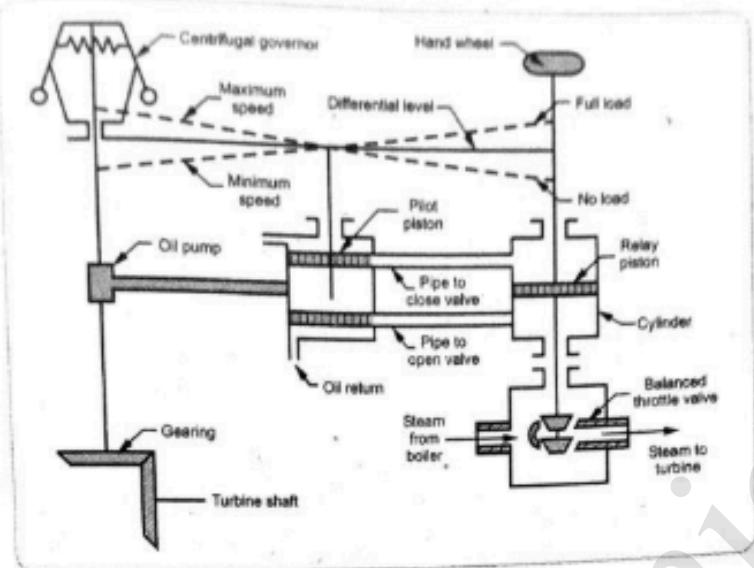

Fig. 4.49 : Throttle governing of steam turbine
- Fig. 4.49, shows the simple throttle arrangement. The purpose of throttle governing is to throttle the steam whenever there is reduction in the load as compared to design load before it is supplied to the turbine.